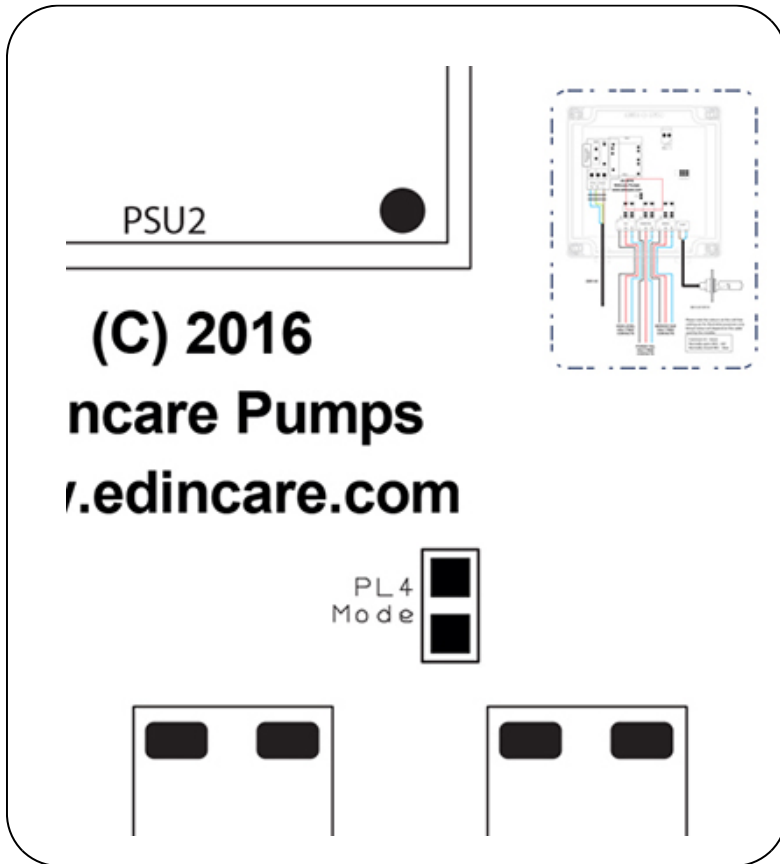

Fig. 15 Jumper settings
1. The PL4 jumper on the circuit board is set to normally closed to operate the float switch, if you need to change this to normally open please reconnect the jumper. **As shown in fig.15.**